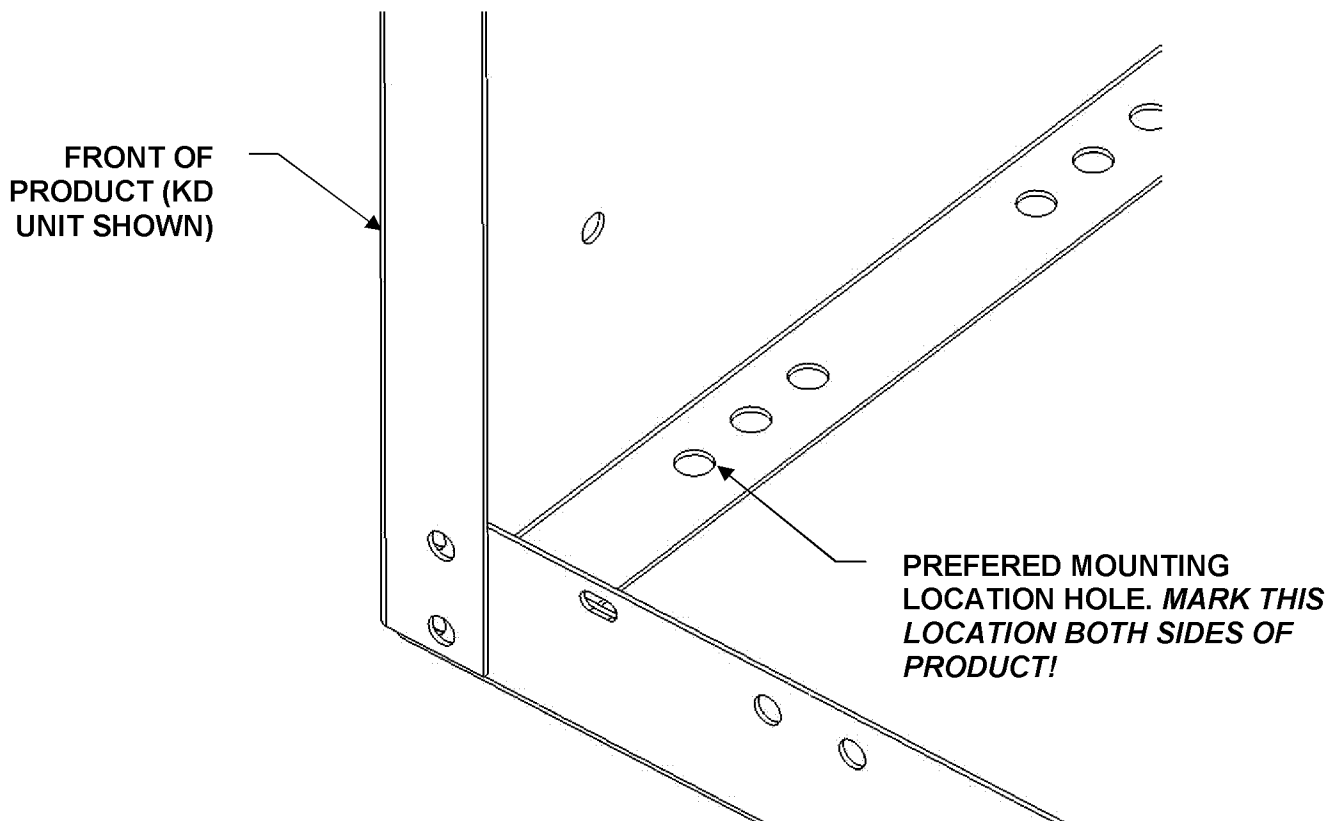

FIGURE 4. FLOOR MOUNTING LOCATIONS.
- 1) WITH THE PRODUCT AGAINST INTERIOR PLYWOOD WALL AT THE DESIRED LOCATION, MARK THE PLYWOOD TRAILER FLOOR THROUGH THE FRONT, OUTER HOLES ON PRODUCT, AS SHOWN IN FIGURE 4.